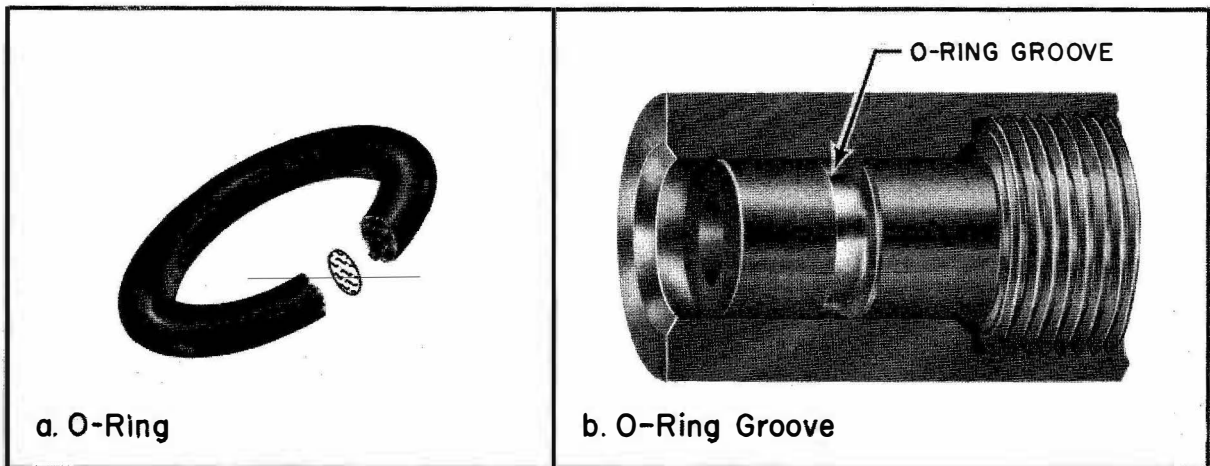

Figure 5-1. O-Ring and O-Ring Groove
a. **O-Ring Watertight Seals.** - Seals employed in pressureproof fittings are precision made O-rings. The O-ring is installed in an O-ring groove and the cross section of the O-ring is given an initial diametral squeeze of 10 to 25 percent by the mating flanges or other parts of a pressureproof fitting. At low pressure the diametral squeeze and material resilience of the O-ring furnishes the necessary seal. At higher pressures, force is applied to the O-ring and the resulting distortion augments the seal. See figures 5-1 through 5-4.